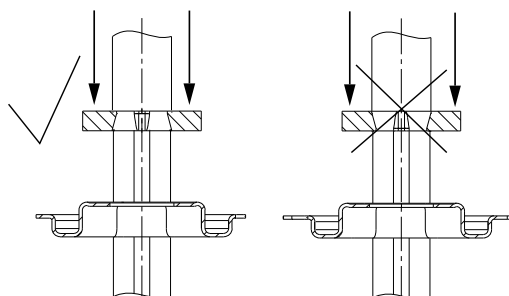

Fig. 18 Fitting the stop ring
7. Fit retainer (pos. 111) and stop ring (pos. 111a). See fig. 18.